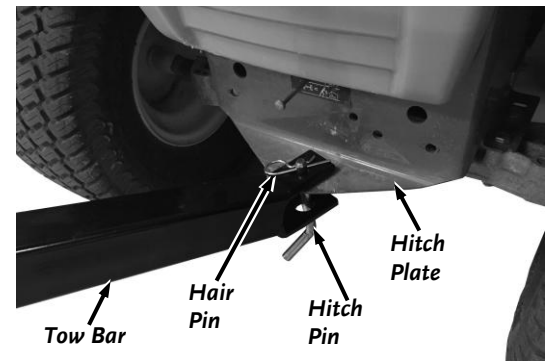

Figure 11
2. Lift the Tow Bar and position the Pin Hitch opening onto the Tow Vehicles Hitch Plate (**Figure 11**).